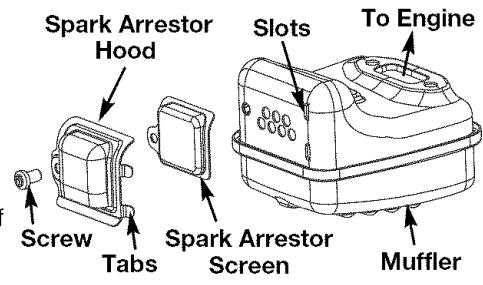

Fig. 19
6. Place the spark arrestor plate on top of the spark arrestor screen with the raised side up and the opening facing toward the engine (Fig. 19).
7. Place the spark arrestor hood on top of the spark arrestor plate with the "raised" side up and the opening facing AWAY from the engine (Fig. 19). Verify that the exhaust will be directed AWAY from the engine.
2. Locate the muffler, **but do not remove it**. Find the screw on the bottom of the muffler (Fig. 19). This screw holds the Spark Arrestor Hood Assembly and the spark arrestor screen to the bottom of the muffler. Remove this screw using either a Torx T20 or flat blade screwdriver.